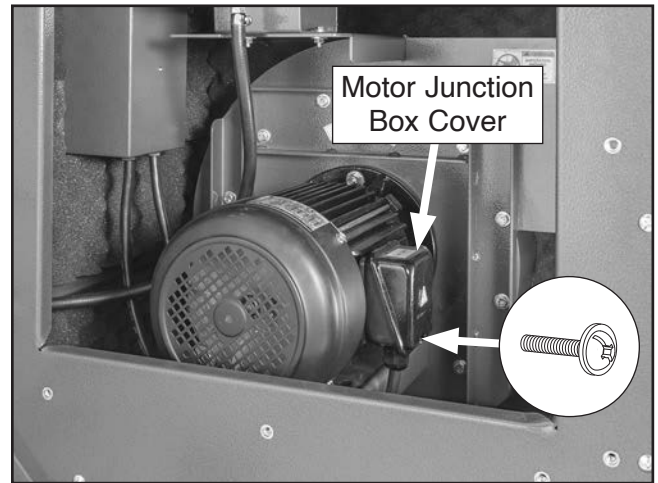

Figure 11. Motor junction box cover and screw.
3. Remove screw shown in **Figure 11** to remove motor junction box cover.